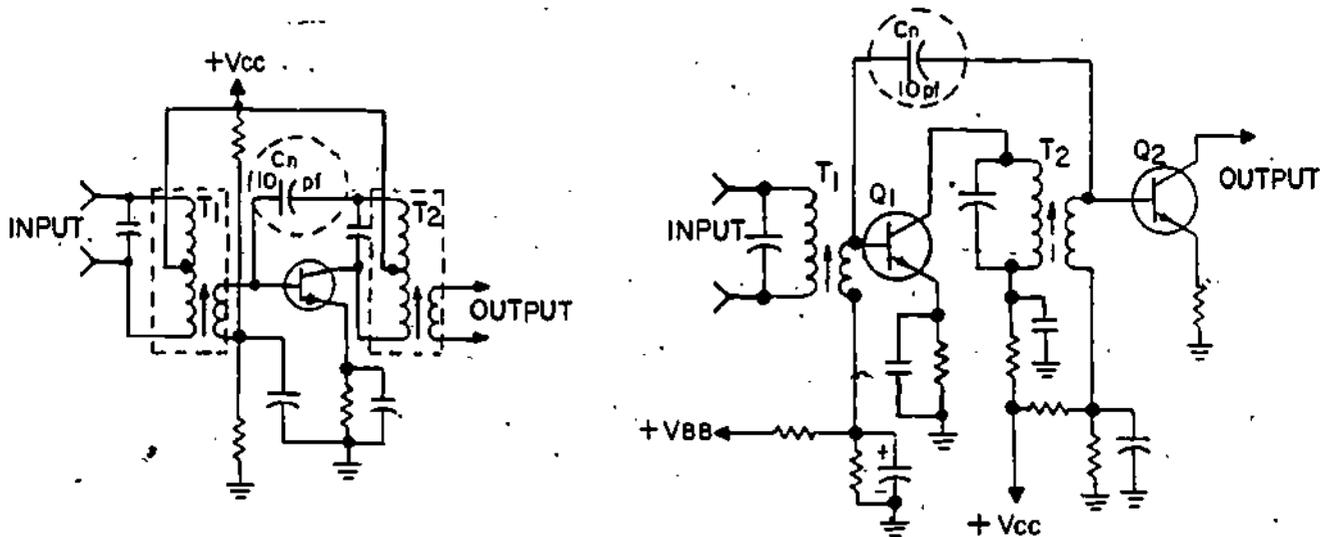

Figure 25
27) We want an RF amplifier to amplify rather than to oscillate. To prevent oscillation, we can supply another feedback circuit which is external to the transistor. If this feedback is exactly equal in voltage and opposite in polarity to the internal feedback, the two feedbacks will cancel each other. No oscillations will occur because we have neutralized the amplifier's tendency to oscillate. The circuits in Figure 25 show two ways an amplifier can be neutralized. The neutralization component is labelled  $C_n$ .